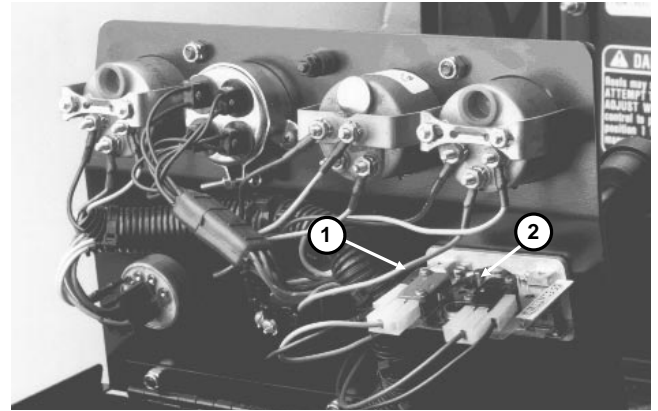

Figure 15
The Lower-Mow/Raise Control has two (2) normally open (NO) switches, one for the Lower-Mow function and one for the Raise function. Each switch is normally open and closes when the joystick is moved (Fig. 15).